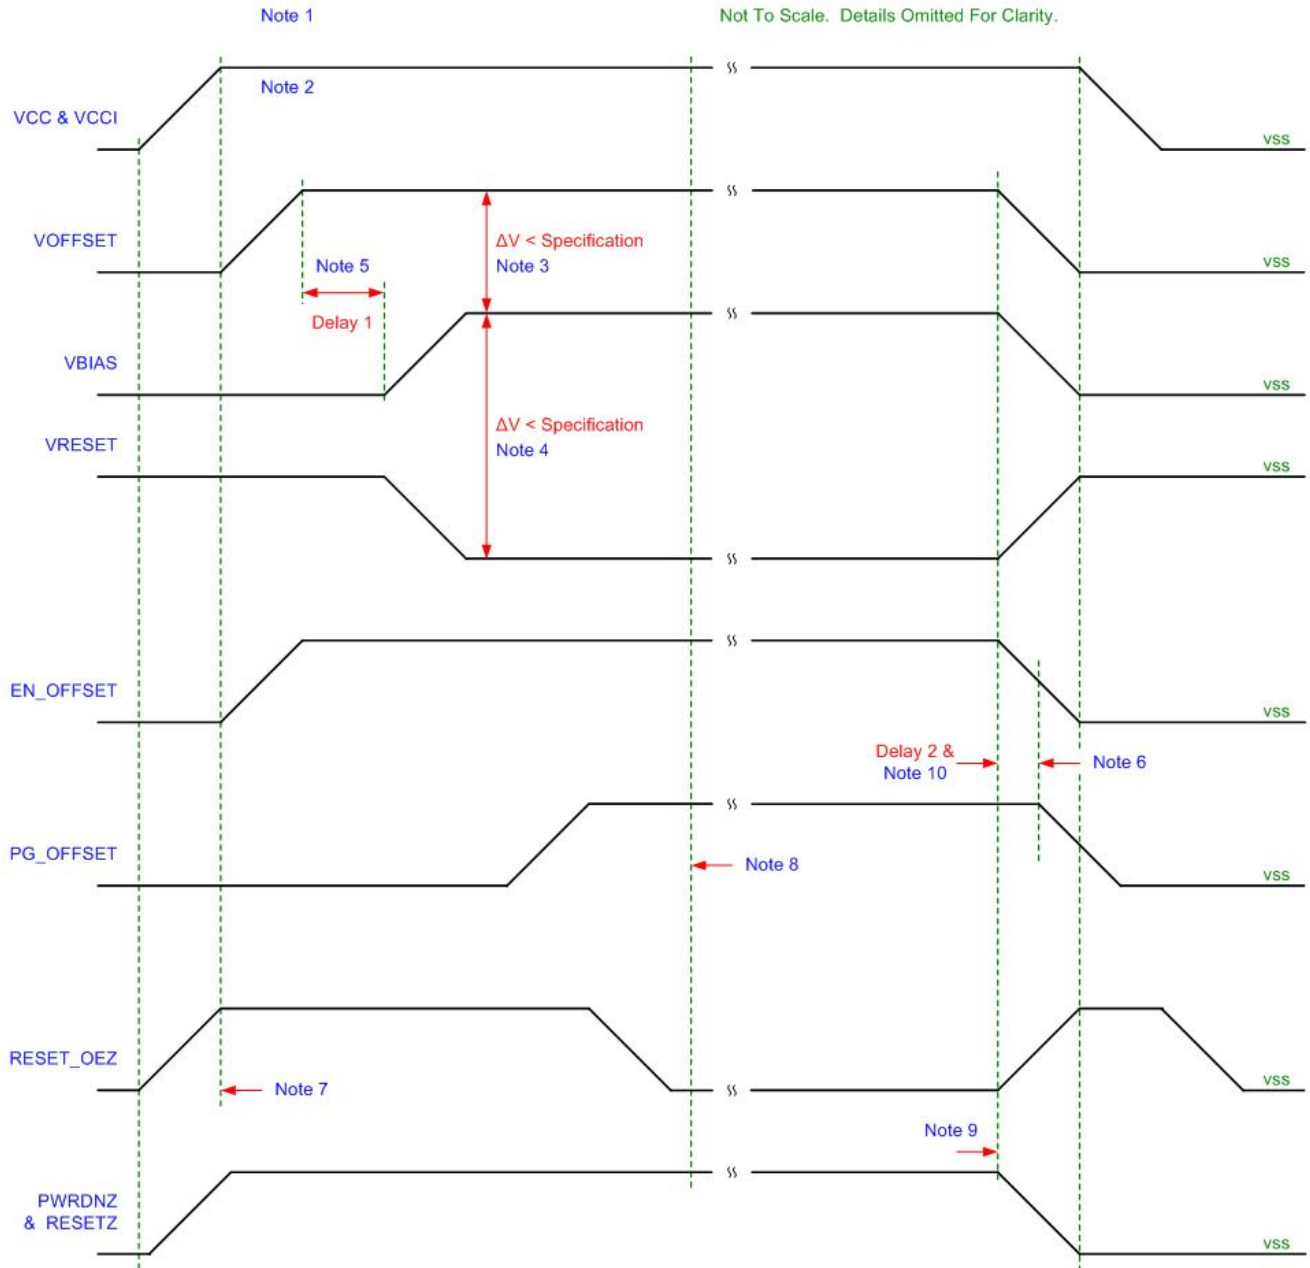

Figure 15. DMD Power Supply Requirements
For reliable operation of the DMD, the following power supply sequencing requirements must be followed. Failure to adhere to any of the prescribed power-up and power-down requirements may affect device reliability. See Figure 15 DMD Power Supply Sequencing Requirements.
- Power supply slew rates during power-up are flexible, provided that the transient voltage levels follow the requirements specified in Absolute Maximum Ratings, in Recommended Operating Conditions, and in Figure 15.
- Power supply slew rates during power-down are flexible, provided that the transient voltage levels follow the requirements specified in Absolute Maximum Ratings, in Recommended Operating Conditions, and in Figure 15.